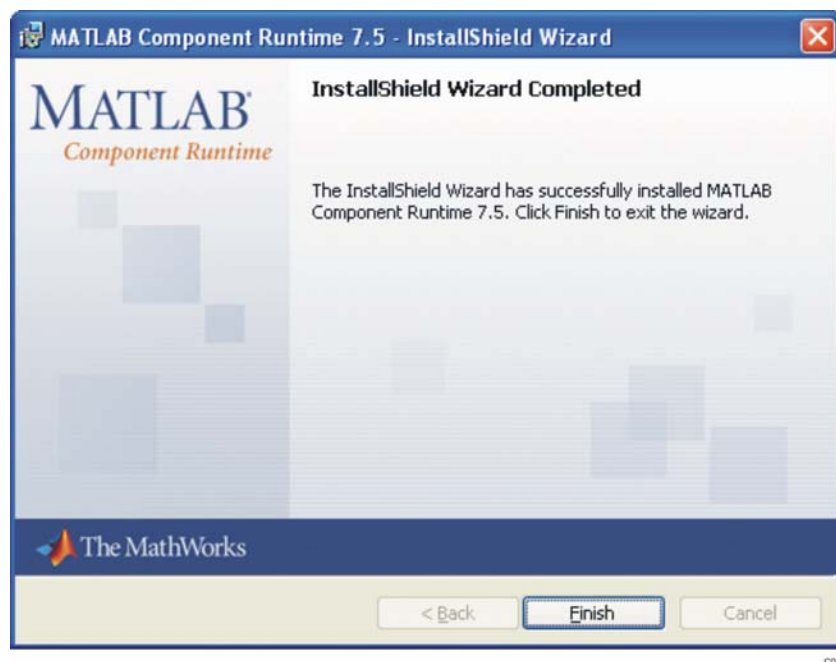

Figure 11. InstallShield Wizard Completed
6. Click *Finish* once the *InstallShield Wizard Completed* screen (Figure 11) displays.